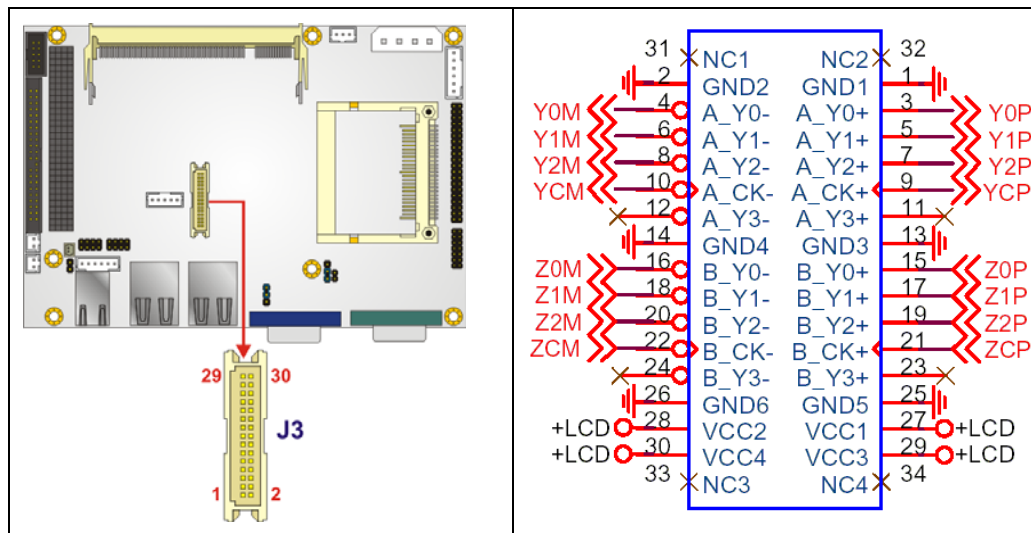

Figure 4-15: TFT LCD LVDS Connector Pinout Locations
- CN Location:** See Figure 4-15